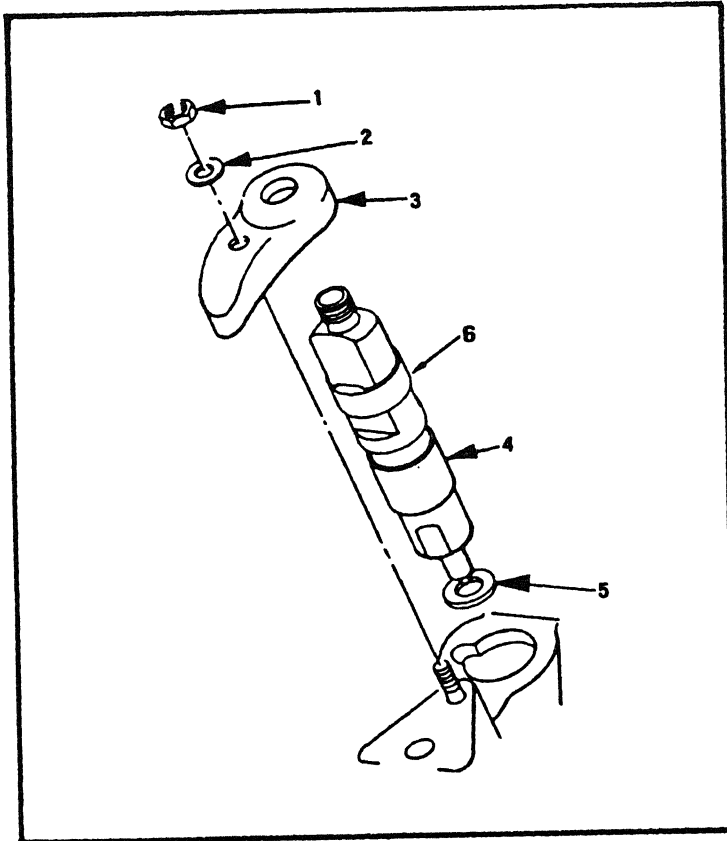

Figure 4-37. Fuel Injection Nozzle Removal and Installation.
- q. Install new injection nozzle washer (5, Figure 4-37) (metal surface down) injection nozzle (4), bushing (6), and yoke (3), and secure with washer (2) and nut (1).